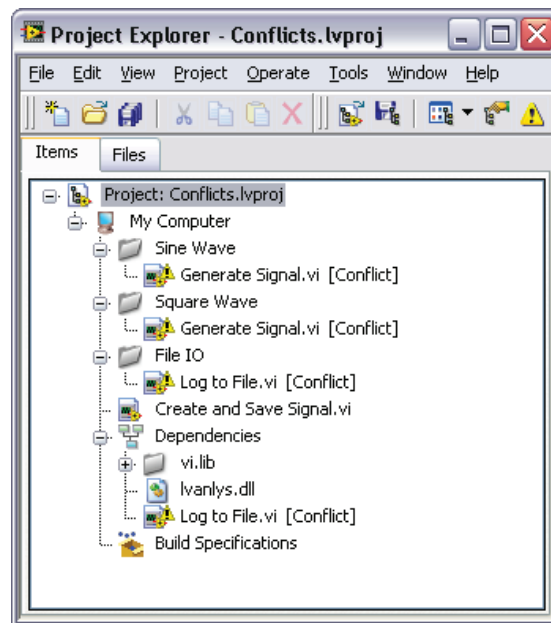

Figure 4-7. LabVIEW Project with Conflicts
- ☐ Expand **Sine Wave**, **Square Wave**, **File IO**, and **Dependencies** in the project tree, as shown in Figure 4-7.